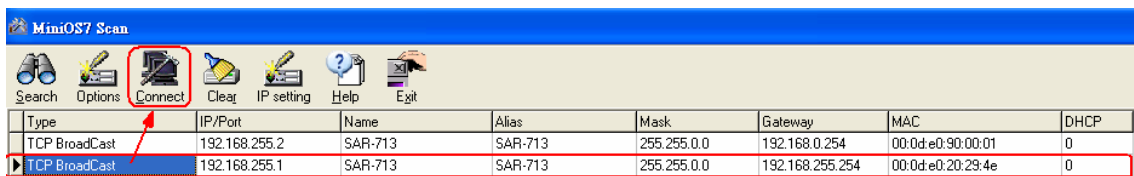
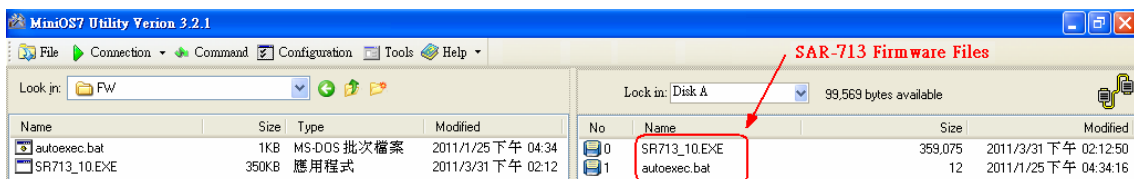

Fig 9.1-4 Open Connection Screen
Fig 9.1-5 Firmware Files
- (1) Choose the assigned SAR-713 module and click the “Connect” button like Fig 9.1-4. It will open the connection screen and show the internal firmware files in the right field like Fig 9.1-5.